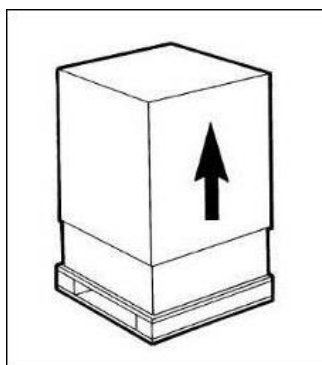

Fig. 57
- a. After removing the packaging, **preserve all parts of it for winter storage** and ensure the integrity of the appliance (Fig. 57).